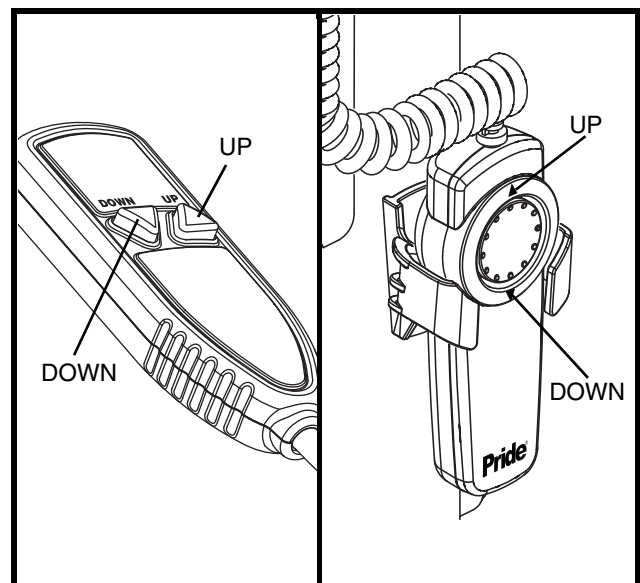

Figure 10. Hand Control Styles
1. Press and hold the “DOWN” button. **See figure 10.** The lift will move out of the vehicle to its farthest forward stop, then lower to the ground. Once the platform has reached the ground, release the “DOWN” button.
6. Press and hold the "UP" button. See figure 10. The lift will move up to its highest lift point, then slide into the SUV or van. Once the mobility device is stowed completely within the vehicle, release the button.